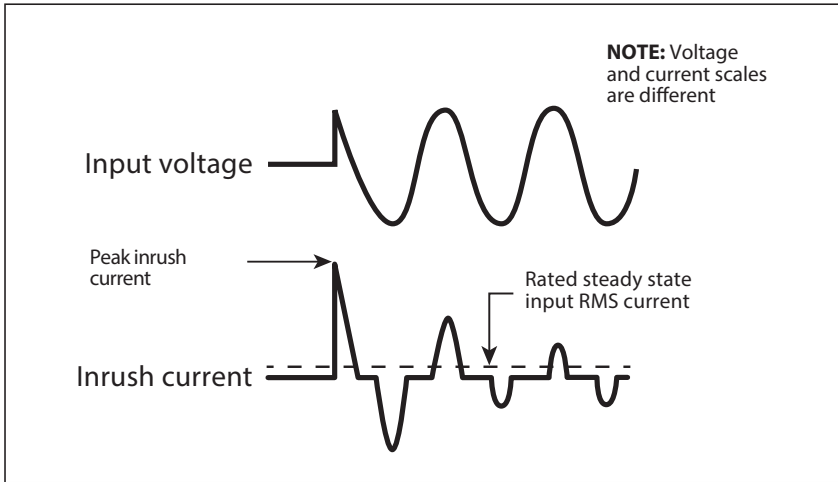

Fig 4.1: Inrush current in an SMPS.
- **AC to DC Switched Mode Power Supplies (SMPS):** This type of power supply is used as stand-alone power supply or as front end in all electronic devices powered from Utility / Grid e.g. in audio / video / computing devices and battery chargers (Please see Section 4 for more details on SMPS). When this power supply is switched ON, its internal input side capacitors start charging resulting in very high surge of Inrush Current for a few milliseconds (Please see fig 4.1). This surge of inrush current / power may reach up to 15 times the Continuous Maximum Running Power Rating. The surge of inrush current / power will, however, be limited by the Surge Power Rating of the AC source.
**Power Factor, (PF):** It is denoted by “PF” and is equal to the ratio of the Active Power (P) in Watts to the Apparent Power (S) in VA. The maximum value is 1 for resistive types of loads where the Active Power (P) in Watts = the Apparent Power (S) in VA. It is 0 for purely inductive or purely capacitive loads. Practically, the loads will be a combination of resistive, inductive and capacitive elements and hence, its value will
Switch Mode Power Supplies (SMPS) are extensively used to convert the incoming AC power into various voltages like 3.3V, 5V, 12V, 24V etc. that are used to power various devices and circuits used in electronic equipment like battery chargers, computers, audio and video devices, radios etc. SMPS use large capacitors in their input section for filtration. When the power supply is first turned on, there is a very large inrush current drawn by the power supply as the input capacitors are charged (the capacitors act almost like a short circuit at the instant the power is turned on). The inrush current at turn-on is several to tens of times larger than the rated RMS input current and lasts for a few milliseconds. An example of the input voltage versus input current waveforms is given in Fig. 4.1. It will be seen that the initial input current pulse just after turn-on is > 15 times larger than the steady state RMS current. The inrush dissipates in around 2 or 3 cycles i.e. in around 40 to 60 milliseconds for 50 Hz sine wave.